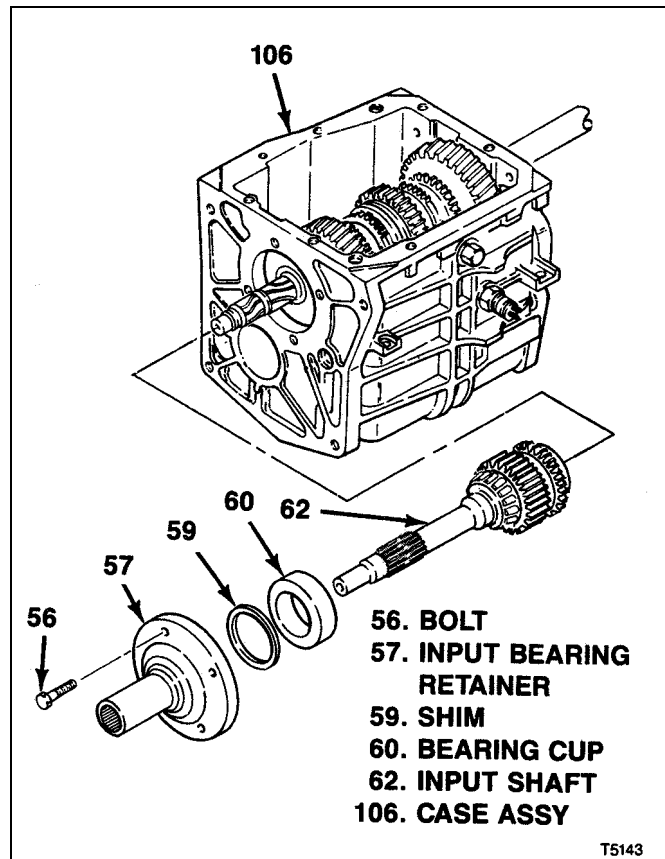
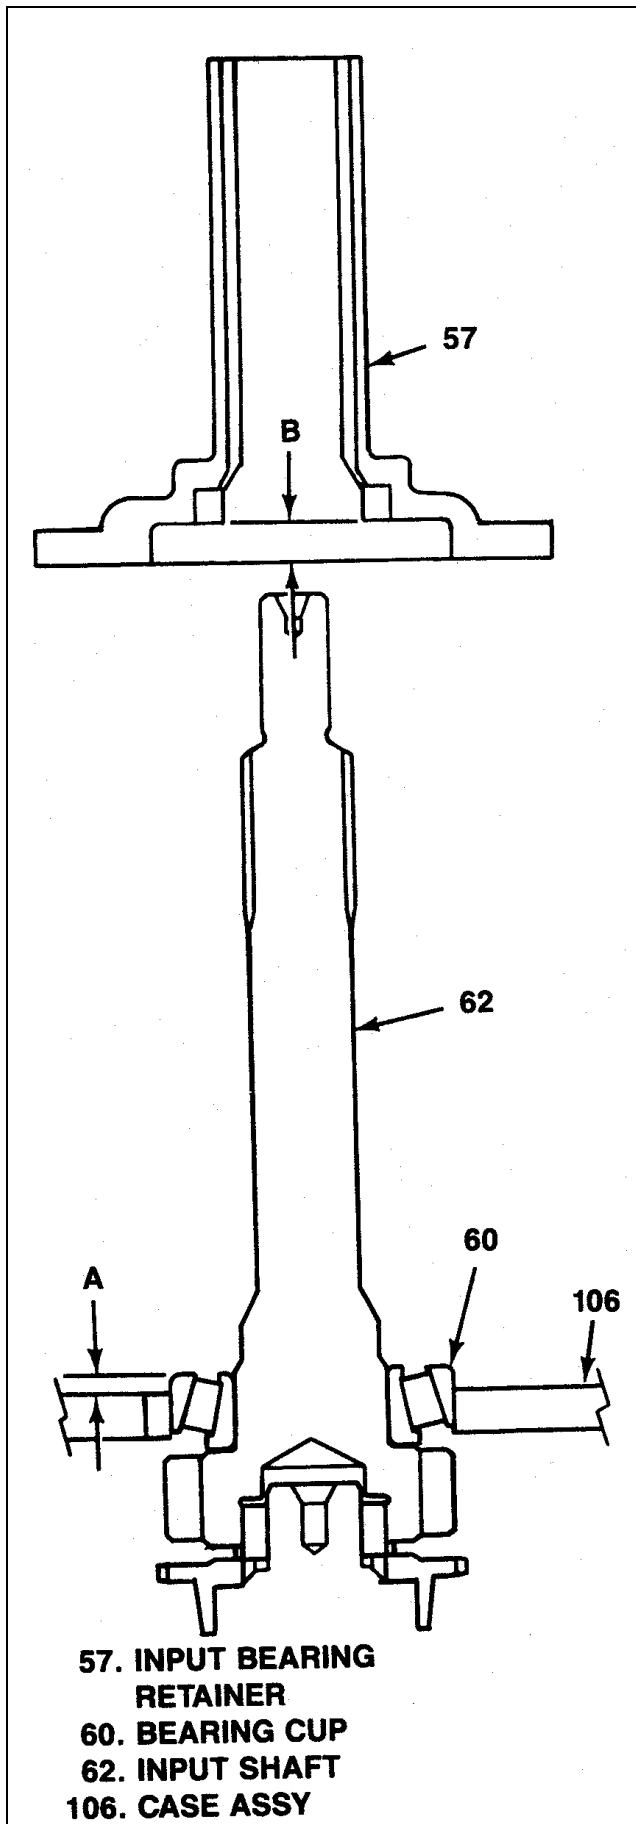

Figure 7-21. T5 STD Bearing Preload Adjustment
Figure 7-22. T5 STD Bearing Preload Measurements
**7-19. ADJUSTMENT OF T5 STD INPUT/OUTPUT SHAFT BEARING PRELOAD.** with both input bearing retainer and extension or adapter installed as described in preceding paragraphs, adjust input/output shaft bearing preload as follows (see figure 7-21 and 7-22):
- b. Remove bolts (56, figure 7-21) attaching input bearing retainer (57) and remove bearing retainer.
- c. Using hand pressure, press down firmly on input shaft (62) and bearing cup (60) to ensure that power train parts in transmission are fully seated.
- d. Using suitable depth micrometer measure and record the following (see figure 7-22):